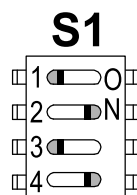

Figure 17.1 DIP Switch S1 Settings for the Self RAM Check
1. Set DIP switch S1 as shown in Figure 17.1.